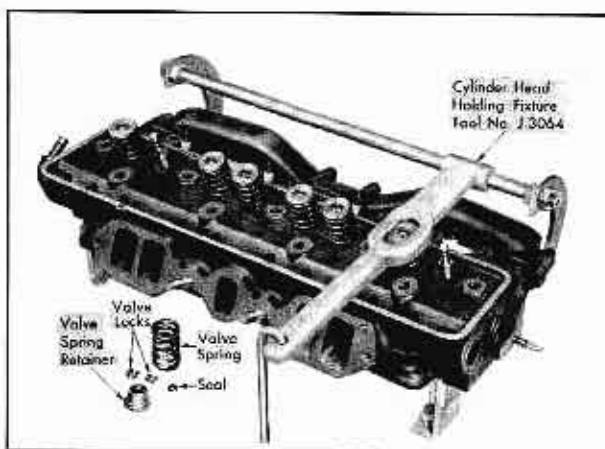

Fig. 10-7 Removing Valve Springs
4. Invert head and place valve spring compressing bar over valve stem, Fig. 10-7.